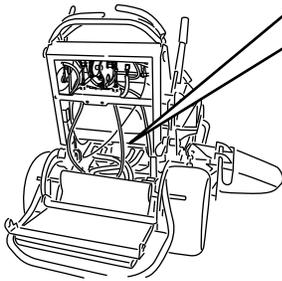

Figure 25
3. Open the bypass valve on both pumps by turning them counterclockwise 1 to 2 turns (Figure 25).